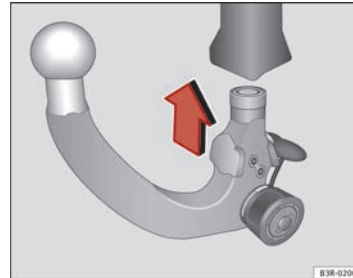

Fig. 170 Removable towing bracket: Inserting the ball joint
- With the spring mechanism in the ready position, insert the ball joint into the mounting fixture and push it upwards ⇒ Fig. 170 in the direction indicated (arrow) ⇒ **Δ**. It should lock into position automatically. You should now clearly hear it click into place.